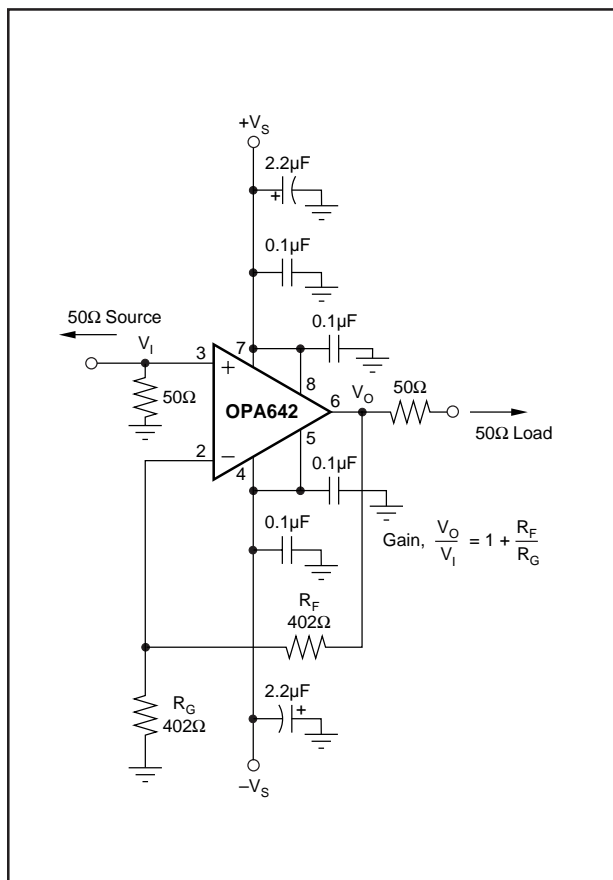
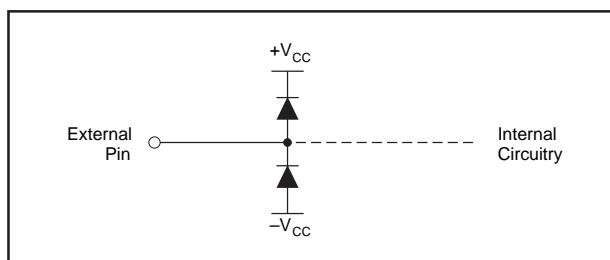

FIGURE 1. Gain of +2, High Frequency Application and Characterization Circuit [P or U Package].
FIGURE 9. Internal ESD Protection.
The OPA642's combination of speed and dynamic range is easily achieved in a wide variety of application circuits, providing that simple principles of good design practice are observed. For example, good power supply decoupling, as shown in Figure 1, is essential to achieve the lowest possible harmonic distortion and smooth frequency response. Proper PC board layout and careful component selection will maximize the performance of the OPA642 in all applications, as discussed in the remaining sections of this data sheet.
Figure 1 shows the gain of +2 configuration used as the basis for most of the Typical Performance Curves. Most of the curves were characterized using signal sources with 50Ω driving impedance, and with measurement equipment presenting 50Ω shunt load impedance. In Figure 1, the 50Ω shunt resistor at the V_I terminal matches the source impedance of the test generator, while the 50Ω series resistor at the V_O terminal provides a matching resistor for the measurement equipment load. Generally, data sheet specifications refer to the voltage swing at the output pin (V_O in Figure 1). The 100Ω load from the series and shunt matching resistances, combined with the 804Ω total feedback network load, presents the OPA642 with an effective load of approximately 90Ω.
To achieve the lowest possible distortion in the 8-pin SO-8 or DIP package, the addition of 0.1μF decoupling capacitors on pins 5 and 8 is required. These are shown in Figure 1. Although pins 5 and 8 are internally connected to pins 4 and 7 respectively (the standard supply pins for 8-pin op amps), the additional capacitors help to decouple the package lead inductances and improve second harmonic suppression at 5MHz by approximately 4dB. The much shorter bond wires and supply leads of the SOT23-5 package give the best distortion performance while requiring only two power supply connections.
is typically set up for a voltage gain of +2, compensating for the 6dB attenuation of the voltage divider formed by the series and shunt 75Ω resistors at either end of the cable. The circuit of Figure 1 applies to this requirement if all references to 50Ω resistors are replaced by 75Ω values. Often, the amplifier gain is further increased to 2.2, which recovers the additional DC loss of a typical long cable run. This change would require the gain resistor (R_G) in Figure 1 to be reduced from 402Ω to 335Ω. In either case, both the gain flatness and the differential gain/phase performance of the OPA642 will provide exceptional results in video distribution applications. Differential Gain and Phase measure the change in overall small-signal gain and phase for the color subcarrier frequency (3.58MHz in NTSC systems) vs changes in the large-signal output level (which represents luminance information in a composite video signal). The OPA642, with the typical 150Ω load of a single matched video cable, shows less than 0.01%/0.01° differential gain/phase errors over the standard luminance range for a positive video (negative sync) signal. Similar performance would be observed for negative video signals. In practice, similar performance is achieved even with two video loads due to the linear high-frequency output impedance of the OPA642.
A good rule of thumb is to target the parallel combination of R_F and R_G (Figure 1) to be less than about 200Ω. The combined impedance $R_F \parallel R_G$ interacts with the inverting input capacitance, placing an additional pole in the feedback network and thus a zero in the forward response. Assuming a 2pF total parasitic on the inverting node, holding $R_F \parallel R_G < 200\Omega$ will keep this pole above 400MHz. By itself, this constraint implies that the feedback resistor R_F can increase to several kΩ at high gains. This is acceptable as long as the pole formed by R_F and any parasitic capacitance appearing in parallel is kept out of the frequency range of interest.
configuration this is sum of $R_F + R_G$, while in the inverting configuration this is just R_F (Figure 1). Increasing output voltage swing increases harmonic distortion directly. A 6dB increase in output swing will generally increase the second harmonic 12dB and the third harmonic 18dB. Increasing the signal gain will also increase the second harmonic distortion. Again a 6dB increase in gain will increase the second and third harmonic by 6dB even with a constant output power and frequency. And finally, the distortion increases as the fundamental frequency increases due to the rolloff in the loop gain with frequency. Conversely, the distortion will improve going to lower frequencies down to the dominant open-loop pole at approximately 3kHz. Starting from the -90dBc second harmonic for 2Vp-p into 500Ω, $G = +2$ distortion at 1MHz (from the Typical Performance Curves), the second harmonic distortion at 20kHz should be approximately $-90\text{dB} - 20\log(1\text{MHz}/20\text{kHz}) = -124\text{dBc}$.
Evaluating these two equations for the OPA642 circuit shown in Figure 1 will give a total output spot noise voltage of $6.7\text{nV}/\sqrt{\text{Hz}}$ and an equivalent input spot noise voltage of $3.35\text{nV}/\sqrt{\text{Hz}}$.
Narrowband communications systems are more commonly concerned with the noise figure for the amplifier. The total input referred voltage noise expression (Eq. 2), may be used to calculate the noise figure. Equation 3 shows this noise figure expression using the E_N of Eq. 2 for the non-inverting configuration where the input terminating resistor R_T has been set to match the source impedance (as shown in Figure 1).
Evaluating Equation 3 for the circuit of Figure 1 gives a Noise Figure = 17.6dB. Input transformer coupling can be used to reduce this noise figure. A broadband pulse transformer can provide both a noiseless voltage gain and a more optimum source impedance to minimize the noise figure. Figure 7 shows an example built from the circuit of Figure 1, in which the transformer turns ratio has been set to the
The OPA642 can provide excellent DC signal accuracy due to its high open-loop gain, high common-mode rejection, high power supply rejection, and low input offset voltage and bias current offset errors. The high grade (B) version of any package type provides less than 1mV input offset voltage. To take full advantage of this low input offset voltage, a careful attention to input bias current cancellation is also required. The high speed input stage for the OPA642 has a relatively high input bias current (25μA typ into the pins) but with a very close match between the two input currents—typically 100nA input offset current. The total output offset voltage may be considerably reduced by matching the source impedances looking out of the two inputs. For example, one way to add bias current cancellation to the circuit of Figure 1 would be to insert a 175Ω series resistor into the non-inverting input from the 50Ω terminating resistor. When the 50Ω source resistor is DC coupled, this will increase the source impedance for the non-inverting input bias current to 200Ω. Since this is now equal to the impedance looking out of the inverting input ($R_F \parallel R_G$), the circuit will cancel the gains for the bias currents to the output leaving only the offset current times the feedback resistor as a residual DC error term at the output. Using a 402Ω feedback resistor, this output error will now be less than $3\mu A \cdot 402\Omega = 1.2\text{mV}$.
As a worst case example, compute the maximum T_J using an OPA642N (SOT23-5 package) in the circuit of Figure 1 operating at the maximum specified ambient temperature of +85°C. $P_D = 10V \cdot 26mA + 5^2 / (4 \cdot (100\Omega \parallel 804\Omega)) = 330mW$. Maximum $T_J = +85^\circ C + 0.33W \cdot 150^\circ C/W = 135^\circ C$.
The OPA642 is built using a very high speed complementary bipolar process. The internal junction breakdown voltages are relatively low due to these very small geometry devices. These breakdowns are reflected in the Absolute Maximum Rating table. All device pins are protected with internal ESD protection diodes to the power supplies as shown in Figure 9.
High input overdrive signals can also cause significant differential voltage between the + and - inputs. Where this voltage can exceed the maximum rated voltage of $\pm 1.2V$, external Schottky protection diodes should be added across the two inputs. Again, the capacitance added by these diodes can degrade the noise and AC performance and should be used only where necessary. Figure 9 shows a fully featured input protection circuit for the OPA642. This is the circuit of Figure 1 with additional limiting resistors into the inputs and Schottky clamp diodes across the inputs. These resistor values have been selected to limit the degradation in noise and frequency response, achieve DC bias current cancellation, and limit the current that will flow under overdrive conditions.